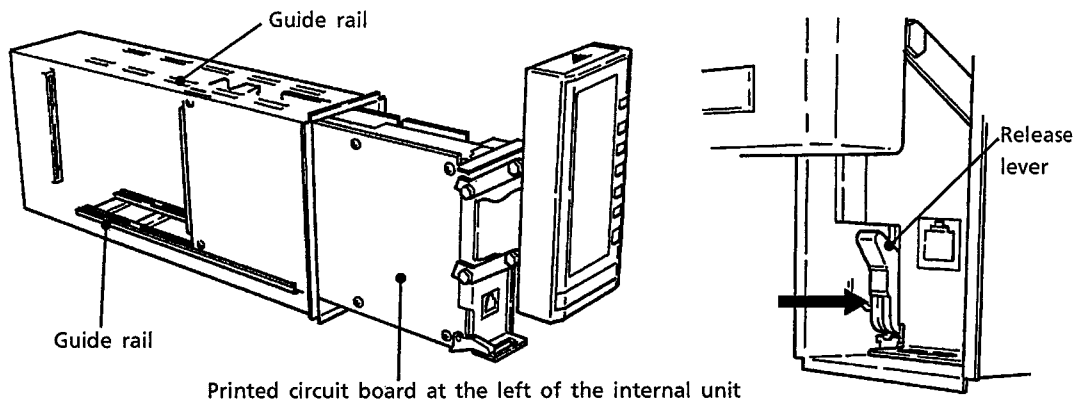

Figure 4.8 Installing the Internal Unit 1    Figure 4.9 Installing the Internal Unit 2
- ① Set the printed circuit board, which is at the left of the internal unit, in the guide rails at the left top and the left bottom in the housing (see Figure 4.8). Then, push in the internal unit until it touches the connector at the back and clicks. The release lever is set back to the hold position.